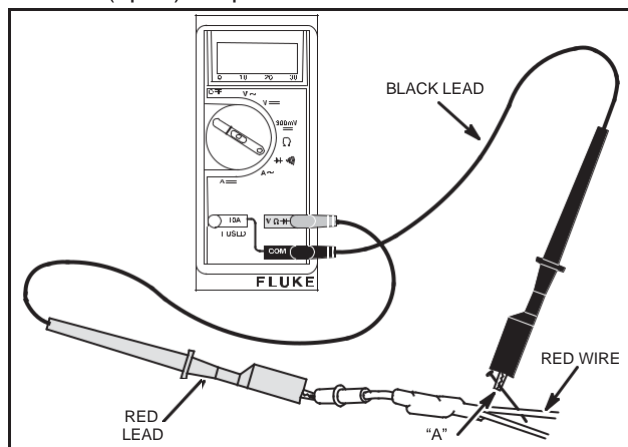

Fig. 17 – Diode Testing – Charging Circuit Lighting Circuit (White Wire)
4. Attach BLACK test lead clip to point "A," (red wire) Fig. 17. (It may be necessary to pierce wire with a pin as shown.)